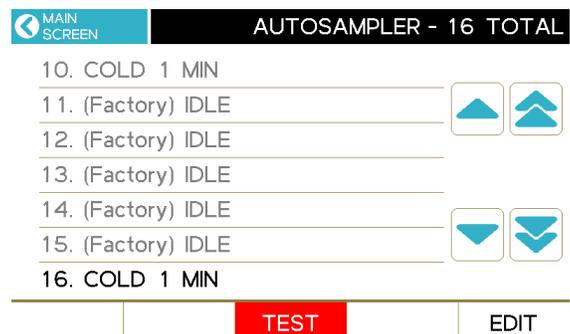

Figure 8
- Once samples are loaded, initiate test by pressing the TEST button on the Autosampler test screen (fig. 8).